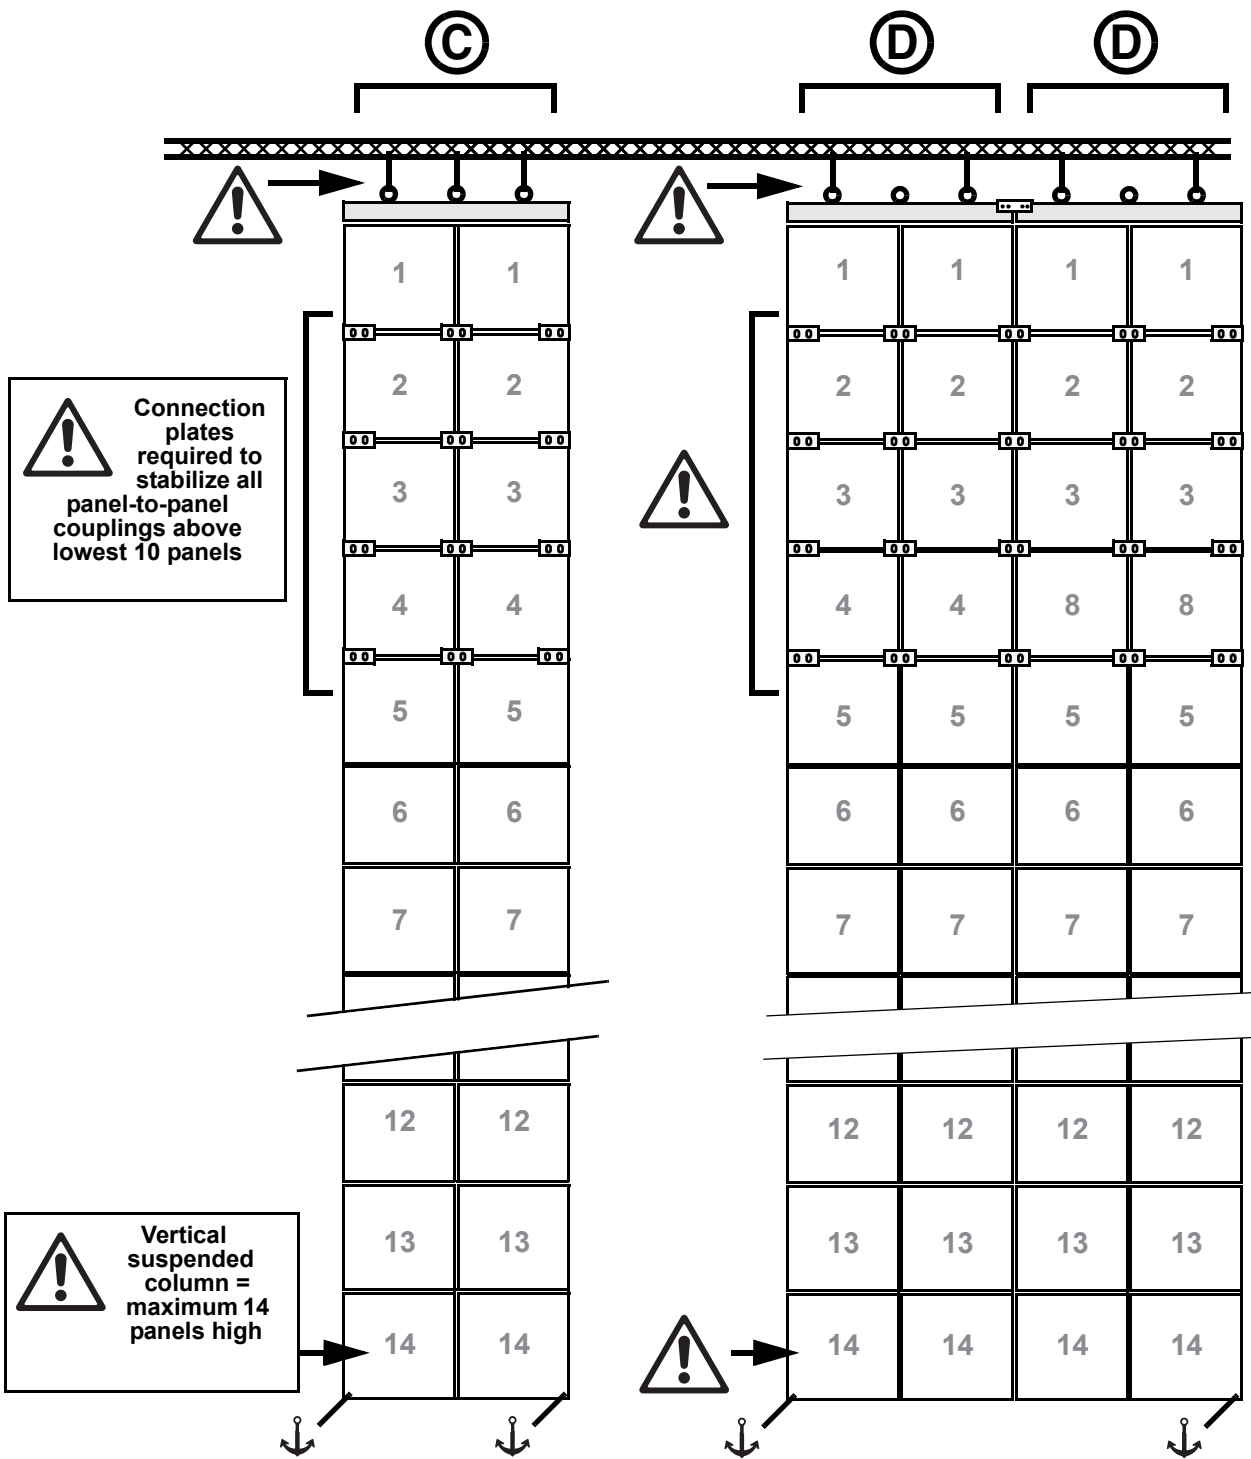
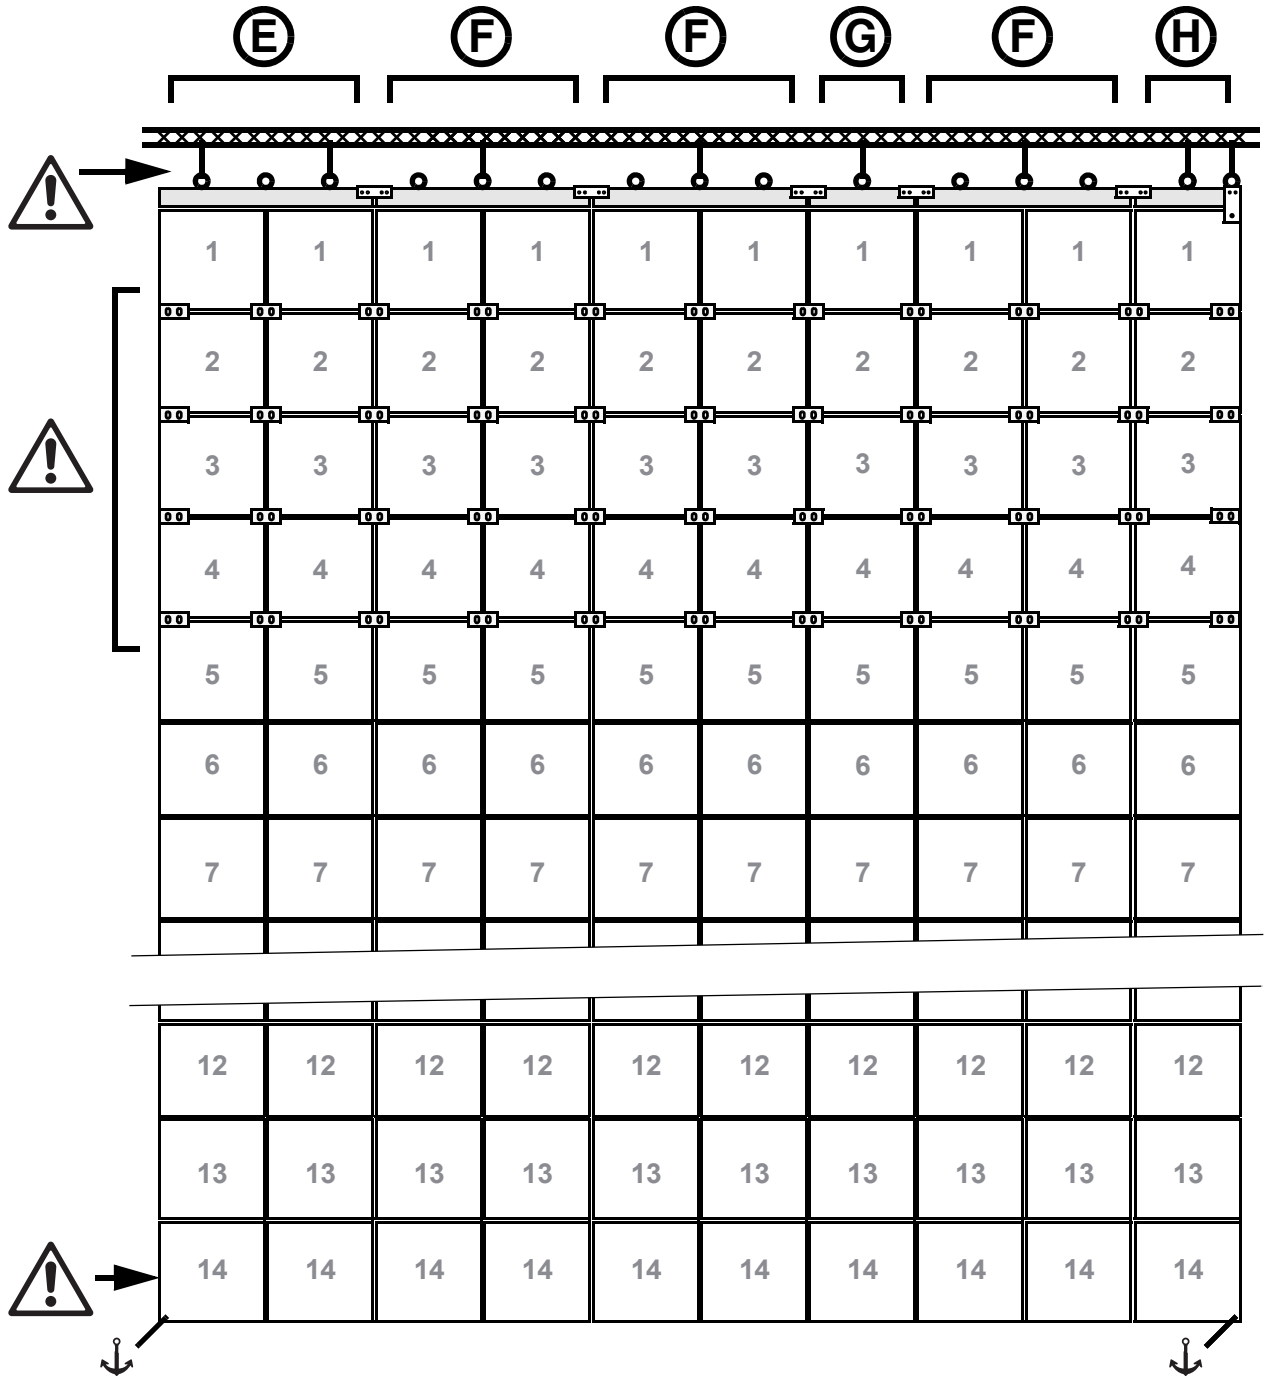

Figure 8: Two-column and four-column configurations
Figure 9: Larger multiple-column configurations
In an installation consisting of multiple columns hanging side by side that are fastened to each other using their integral side-to-side fasteners, in any column that is more than ten (10) panels high, corner connection plates must be installed at all times on all four corners of every panel that is above the ten (10) lowest panels. See also Figure 8 on page 16 and Figure 9 on page 18.
- If you hang two columns of panels from a double header without fastening them side-to-side to other panels (see **C** in Figure 8), you must suspend the header using three cables or chains: one cable or chain per eyebolt on all three eyebolts on the double header.
- If you hang four columns of panels from two double headers without fastening the four-column array side-to-side to other panels (see **D** in Figure 8), you must suspend the double headers using minimum four cables or chains: one cable or chain per eyebolt on minimum two eyebolts per double header.
- If you want to add a single column of panels that is not fastened to other panels at **both** sides (as in **H** in Figure 9), you must obtain a single header and install on it an additional eyebolt available from Martin™. Then you must suspend the single header from two cables or chains before you hang the single column from it.
- If you want to install a single column that is fastened to other panels at both sides (as in **G** in Figure 9), you may use a single header without an additional eyebolt and suspend it from one cable or chain.
1. See Figure 8. Obtain enough headers for all the columns, and obtain enough corner connection plates available from Martin™ to stabilize the column. You will need two connection plates for each panel above the lowest 10 panels.
- Each header in the middle of a multiple-column array (see **F** and **G** in Figure 9) must be suspended from minimum one cable or chain.
- Each header at the edge of a multiple-column array (see **E** and **H** in Figure 9) must be suspended from minimum two cables or chains:
- If you install a *double* header at the edge of a multiple array (see **E** in Figure 9), you must use minimum two of the header's three eyebolts so that you can suspend the header from two cables or chains.
- If you install a *single* header at the edge of a multiple array (see **H** in Figure 9), you must install one additional eyebolt so that you can suspend the header from two cables or chains.
1. See Figure 9. Obtain enough single or double headers for all the columns, and obtain enough corner connection plates available from Martin™ to stabilize the column. You will need two connection plates for each panel above the lowest 10 panels.